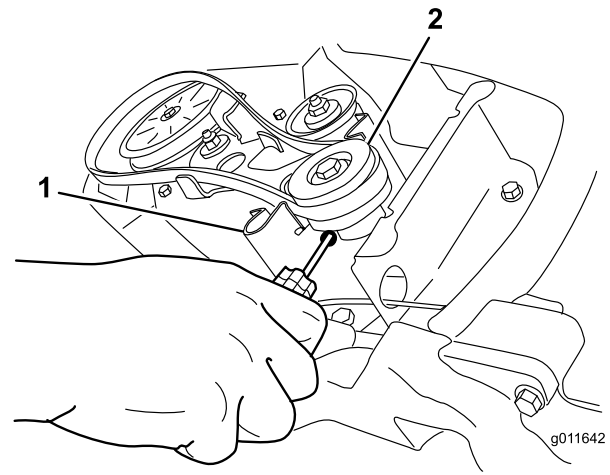

Figure 27
5. Insert a screwdriver into the hole in the belt guide as shown in Figure 27, and flex the belt guide toward the rotor pulley enough to pull the belt through the gap.